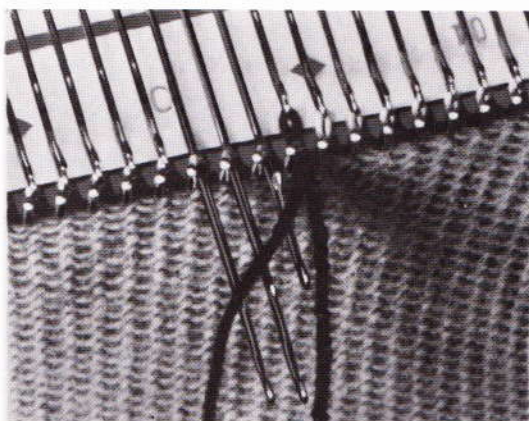

Fig. 188
- Take a length of contrast yarn (about 15 cms) and one by one push these 4 needles back to B position, at the same time laying the contrast yarn in the needle so that it knits the contrast yarn to form a stitch (fig. 188).